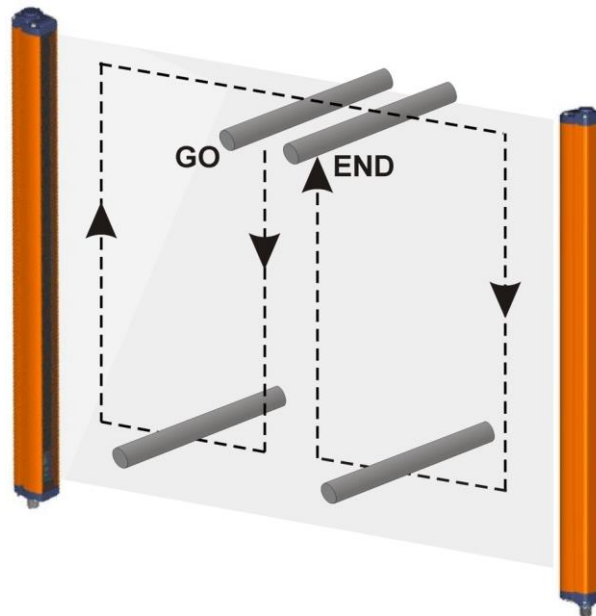

Fig 19 - Path of the test piece
- ESPE remains blocked (➡ lit RED) intercepting the beams along the protected area using the specific test piece, following the scheme in **Fig 19 - page 27**.